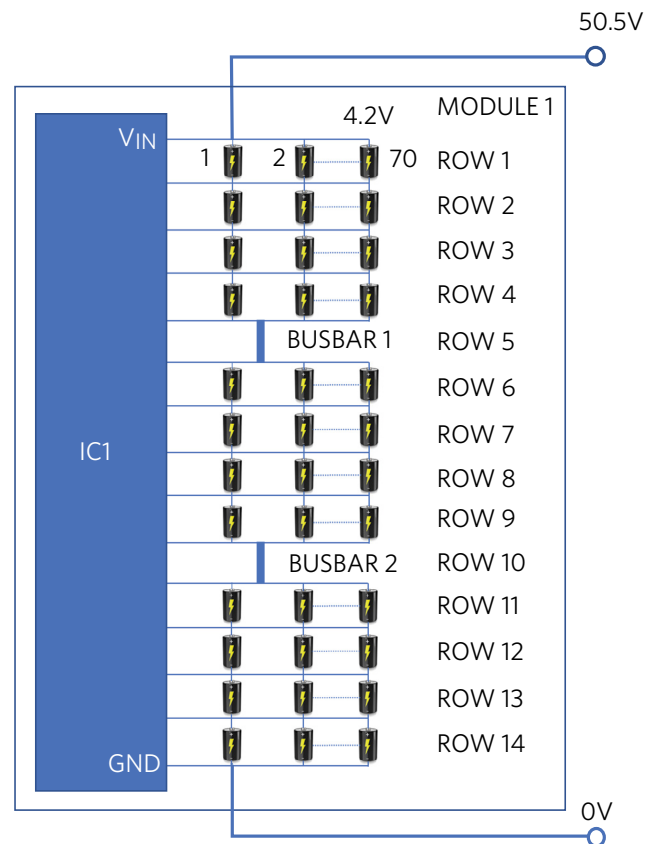

Figure 2. One of Eight Modules in Series Comprised in an Electric Vehicle Car Battery
In Figure 2, a single module is composed of three 4-series, 70-parallel submodules (4S) connected by busbars (BB). Accordingly, the module’s configuration is: 4S+BB+4S+BB+4S.
In a traditional module, moving from a 14s to a 12s module is problematic. The removal of the top two rows in Figure 2 leaves the input of the IC (V_{IN}) unconnected. This requires a PCB change to connect V_{IN} to the top of row 3.